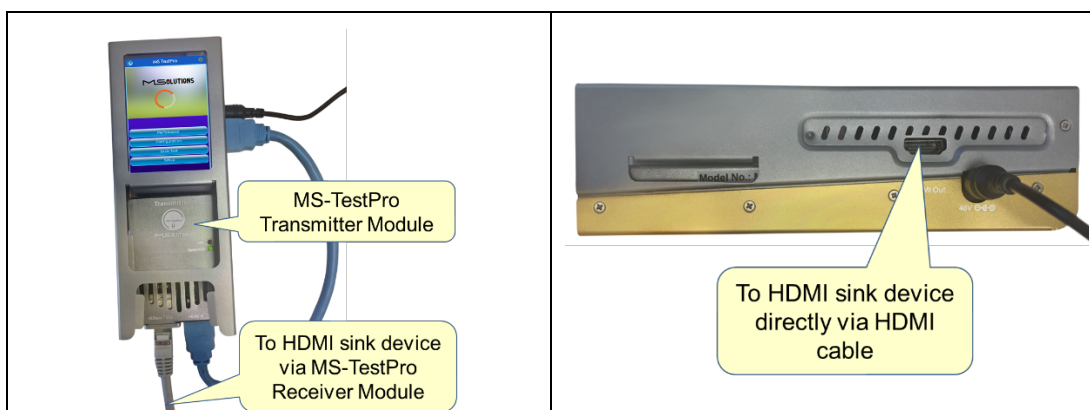

Figure 12: Connecting the MS-Test Pro to the HDMI Sink Device
1. Connect the MS-Test Pro test device to the HDMI sink device using one of the methods described above and depicted in Figure 12.